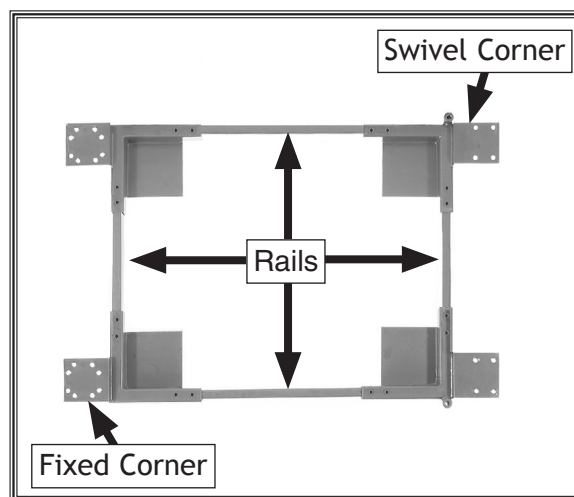

Figure 13. Side rails inserted into corner brackets (casters removed for clarity).
5. Slide each side rail inside a corner bracket, as shown in Figure 13.